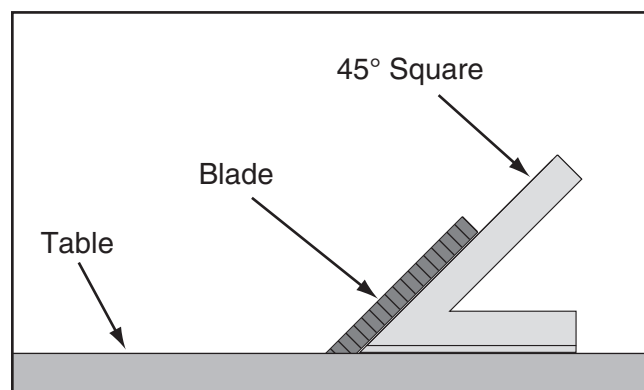

Figure 102. Checking blade at 45°.
3. Place a 45° square against the table and blade so it contacts the blade evenly from bottom to top, as shown in **Figure 102**. Make sure a blade tooth does not obstruct the placement of the square.